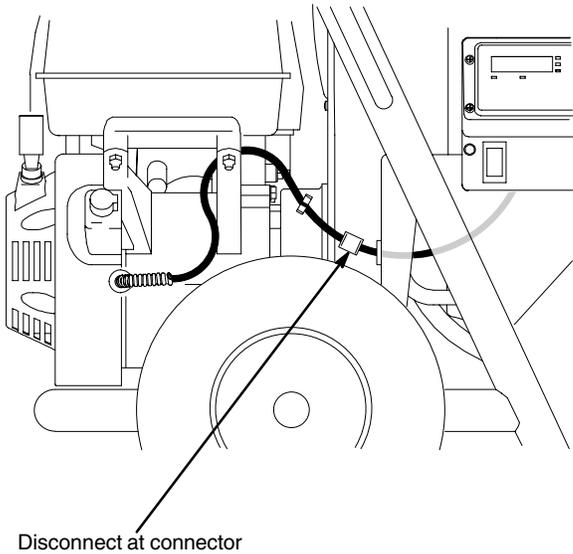

Fig. 5
2. Fig. 5. Disconnect all necessary wiring.
2. Fig. 5. Connect all necessary wiring.